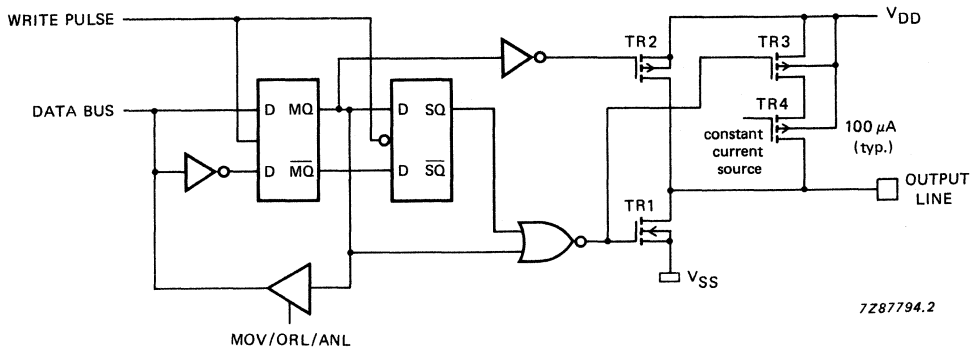

Fig. 12 Push-pull output.
- Option 3 —PUSH-PULL OUTPUT; drive capability of the output will be 1,5 mA (typ.) at $V_{DD} = 3 V$ in both polarities. To avoid a large current flowing through the output transistors during the input mode, these push-pull pins must be used only as outputs (Fig. 12).